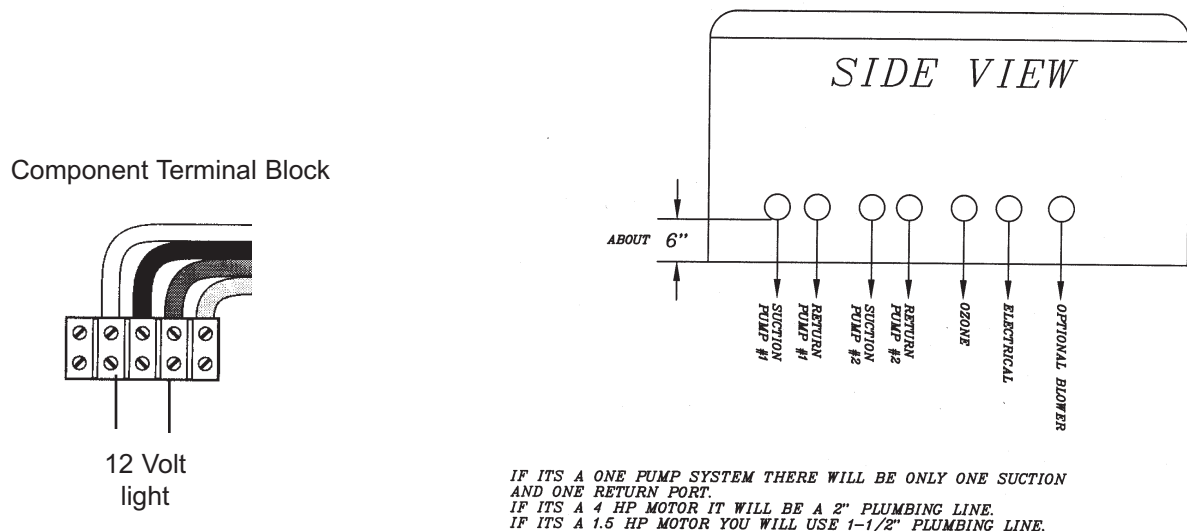

Figure 11. 12V Routing Instructions.
6. Connect the black and white light wires to the appropriate "12V Light location" on the terminal block inside the control box. (See **Figure 11** for example)